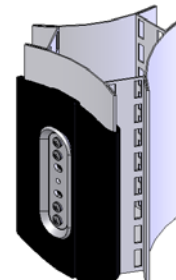

Figure 4
3. Secure the mounting bracket (supplied with your mounting assembly) by installing four 10-24 pan head screws (see Figure 4).